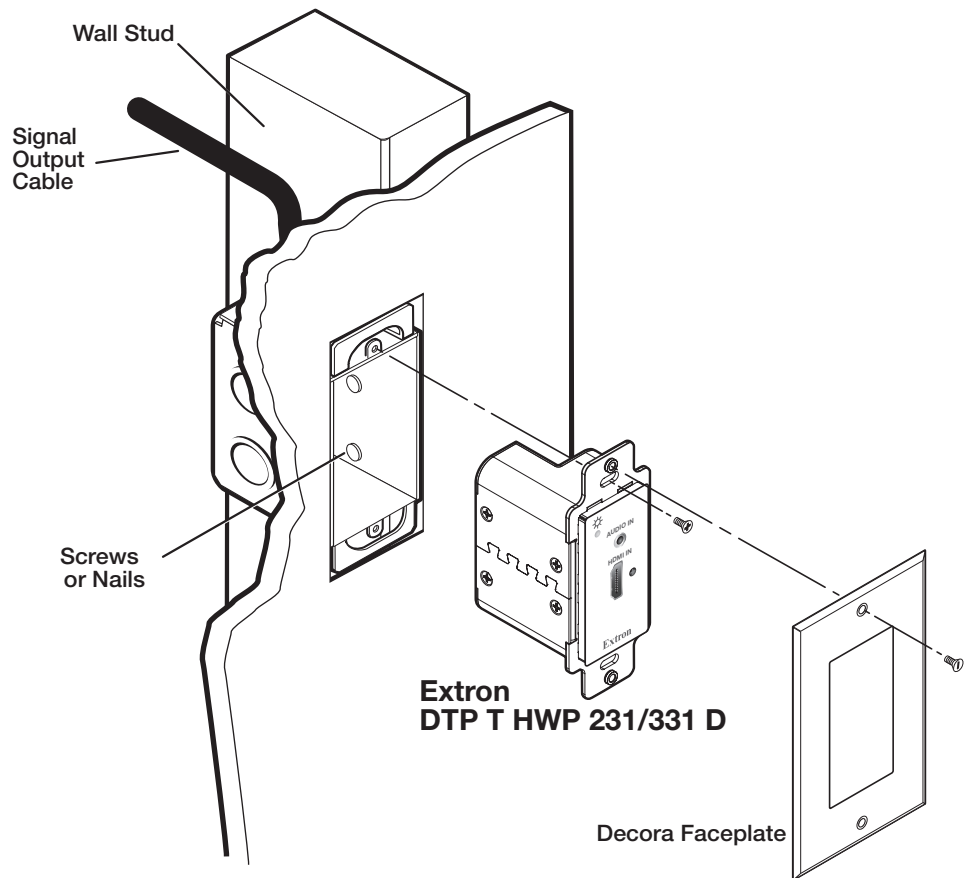

Figure 3. Installing the Wall Box and Mounting the Unit
5. Secure the wall box with nails or screws, leaving the front edge flush with the outer wall or furniture surface (see figure 3).
2. Mount the transmitter into the wall box or mud ring, and attach the supplied Decora faceplate to the unit (see **figure 3** on page 5).